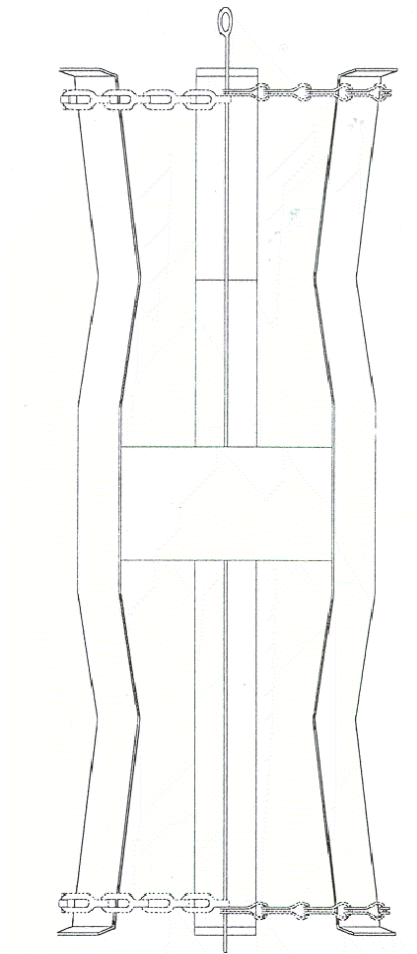

Figure 3 – Assembled Spider Magnet
5. Insert a Release Pin through both ends of the Safety Chain and then into the Release Pin alignment hole, effectively locking the Spring Legs in place (figure 3).
9. Push the Release Pin through both ends of the Safety Chain until the end of the Release Pin reaches the bottom of the Spring Legs (figure 3).